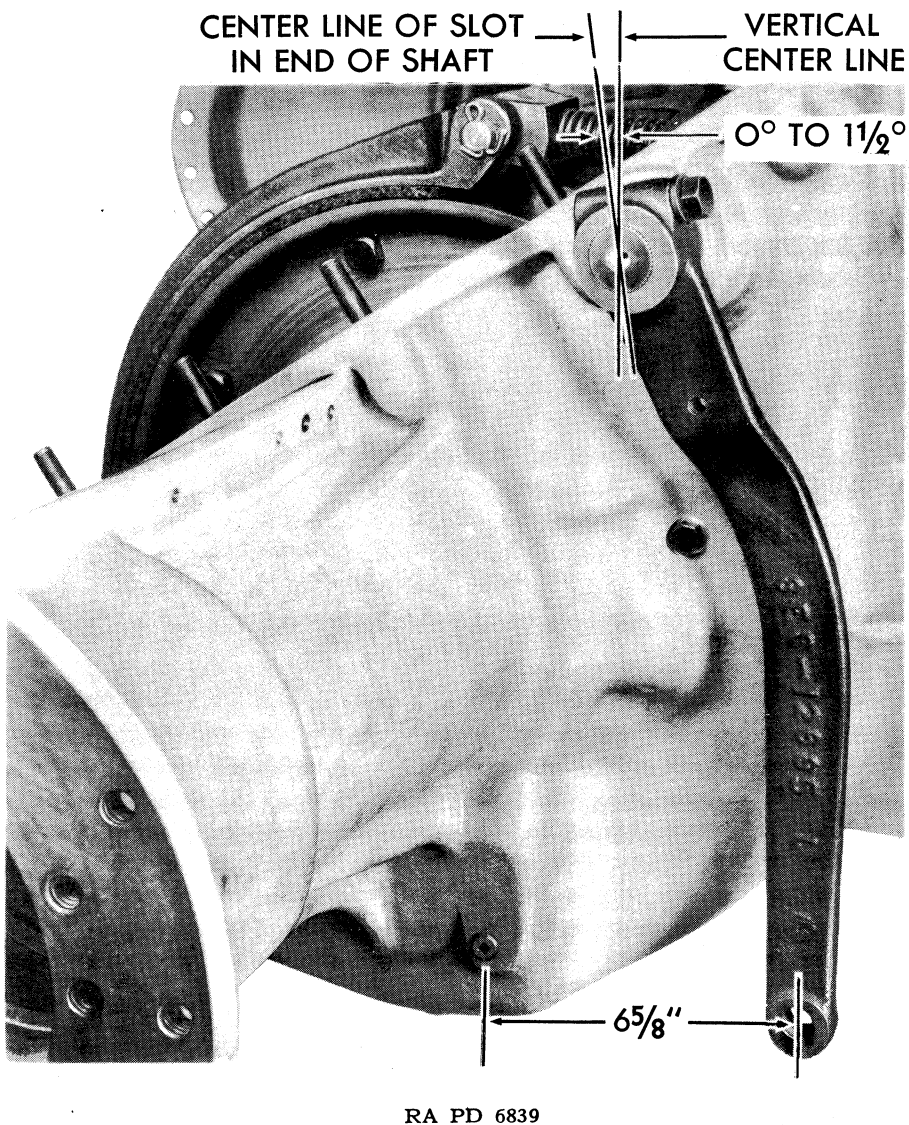

FIGURE 73—Method of adjusting brake.
(28) Adjust brakes (fig. 73).
CAUTION: Before the brakes are adjusted check to see that the transmission case is level. This may be done by using a level on the machined surface to which the handhole cover (C60949) is attached. Put brake lever on camshaft spline with the smaller end of the lever up. Pull lever forward and at the same time push brake shoe against spring while a second man tightens adjusting nut to eliminate the slack between the nut and the camshaft pin. With the brake applied, the correct adjustment will be reached when the slot in the brake camshaft (fig. 73) is vertical or from 0° to 1 1/2° ahead of vertical. (Measure from the shaft center to the top of the shaft.) Remove lever and reinstall on spline of camshaft so that the long, straight, lower section of the lever is approximately parallel to the slot in the end of the camshaft. As a check, measure the distance between centers of the hole in the lever end to the center of the plug in back of the rear oil screen screw (fig. 73). 6 5/8 in. is the correct distance with the brake applied. Use a 3/4-in. socket wrench and tighten brake lever locking screw.